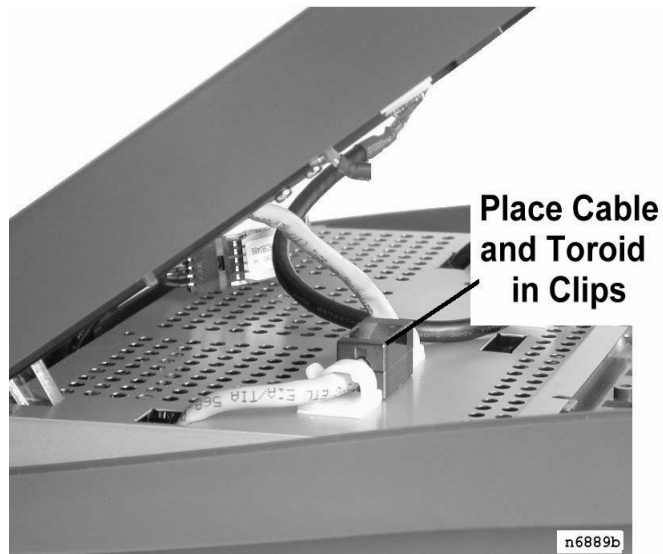

Figure 2-26: Securing the Mag Card Reader Cable to the RF Shield
7. Before closing the cover, place the toroid on the mag stripe reader cable in the cable clamps mounted to the shield. Figure 2-26.